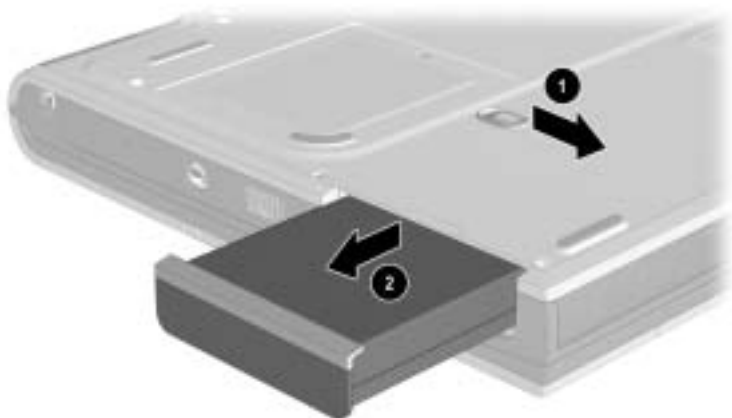

Figure 5-2. Releasing the Battery Pack
- b. Slide and hold the battery release latch ❶ toward the back of the computer (Figure 5-2).
- c. Use the notch in the battery bay to slide the battery pack out of the battery bay ❷.